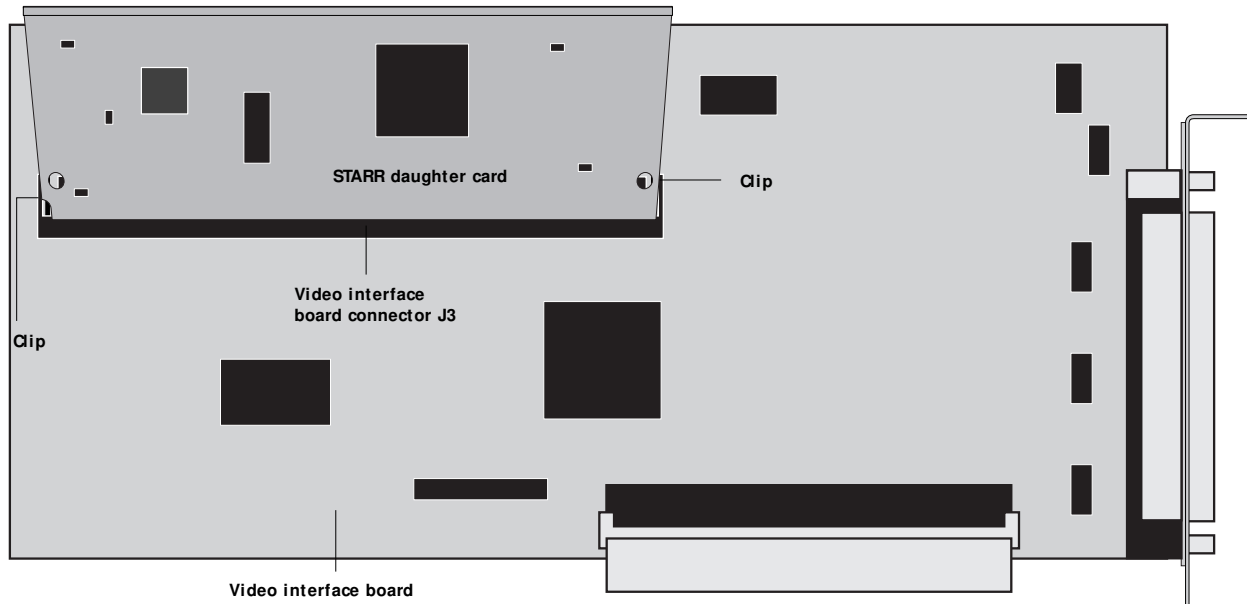

FIGURE 4-13 Installing the STARR daughter card
1. Slide the STARR daughter card into connector J3 on the video interface board at a 45-degree angle (see Figure 4-13).